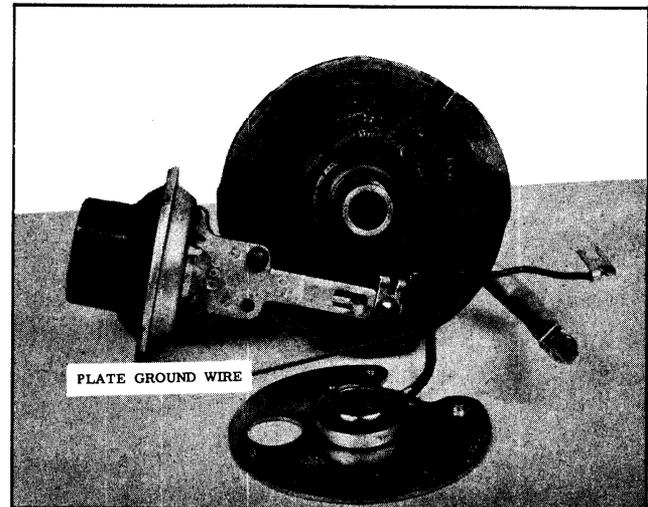

Fig. 13-44 Vacuum Advance Installation
3. Install the attaching screws with the ground lead terminal under the inner mounting screw. (See Fig. 13-44)
1. Install the vacuum advance with the ground lead terminal under the inner mounting screws. (See Fig. 13-44)